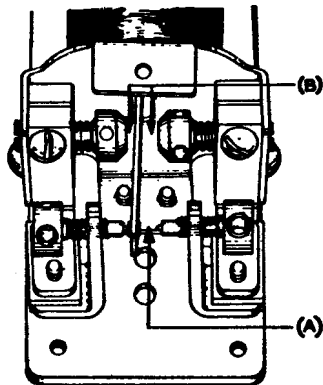

Fig. 104 - 231 Type Relay
- 1.06 Contact Travel** - Fig. 104 (A): Min.  $.004''$ , max.  $.006''$ . Check travel on each contact screw. A difference indicates buildup on contact on side of armature having smaller travel. Remove buildup. 74D gauge.
1.09 *Magnetic Air-Gap* — Fig. 104 (B)